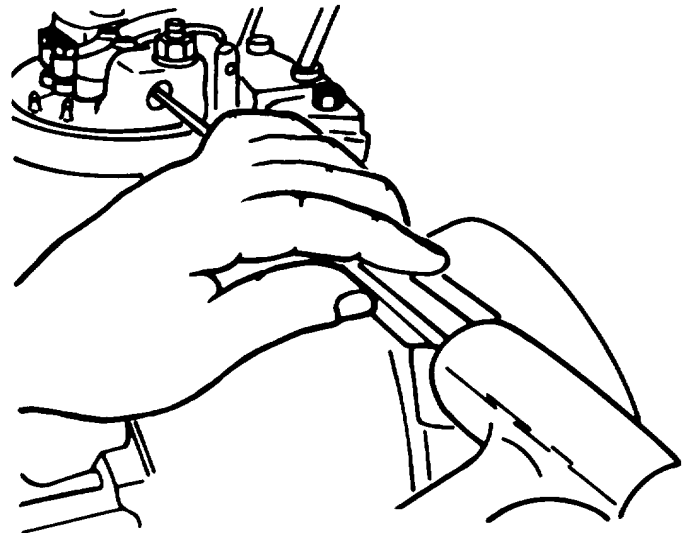

Figure A-11. Rocker Arm Shaft
- (3) Knock out the rocker arm shaft with a drift pin and hammer. Pull out the rocker arms and push rods. (Figure A-11.)